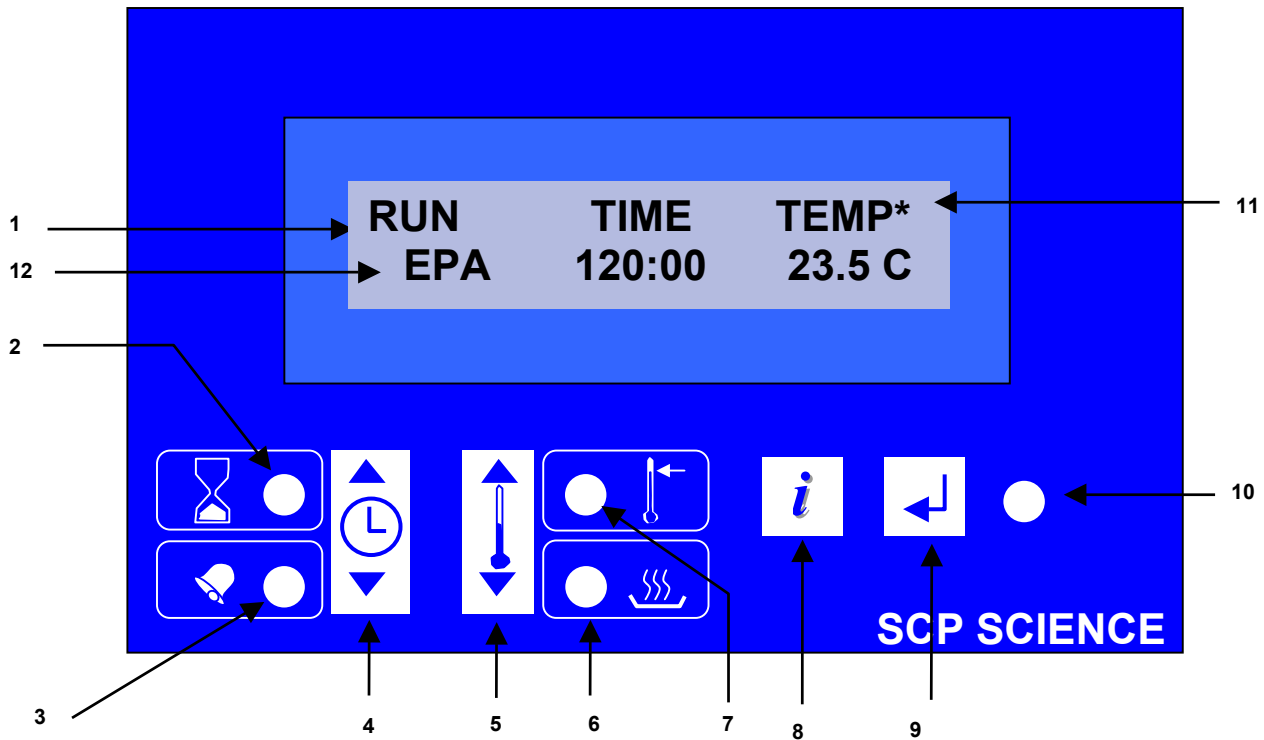

Figure 3: Controller Display
1. LCD Display – The LCD display can be cycled through many different “Screens”. The title of the screen is shown in the upper left corner of the screen. Figure 3 shows the *DigiPREP CUBE* displaying the RUN Screen. The Run screen is the default screen, which displays the time remaining, and the current temperature.